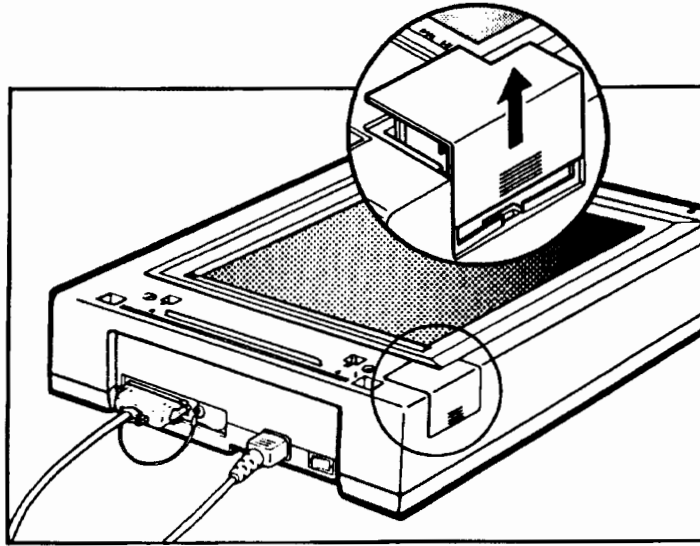

Figure C-9. Removing the Lamp Cover
8. Locate the lamp cover and remove it by gently sliding it up. See figure C-9.